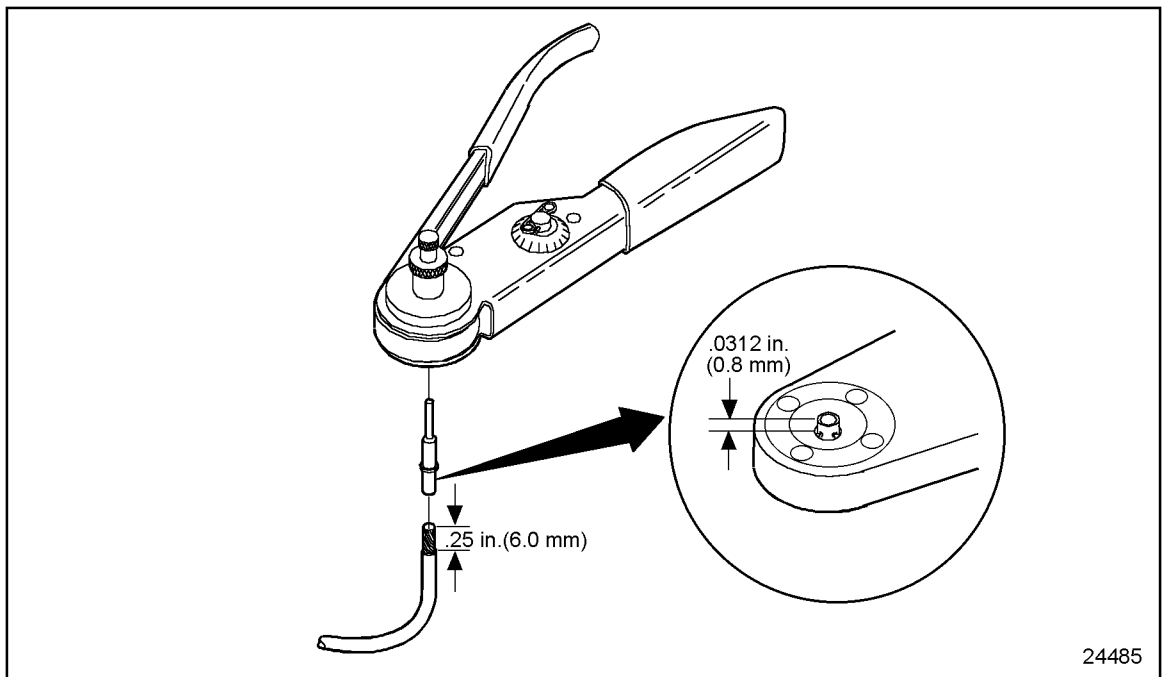

Figure 8-14 **Setting Wire Gage Selector and Positioning the Contact**
4. Position the contact so that the crimp barrel is $1/32$ of an inch above the four indenters. See Figure 8-14. Crimp the cable.